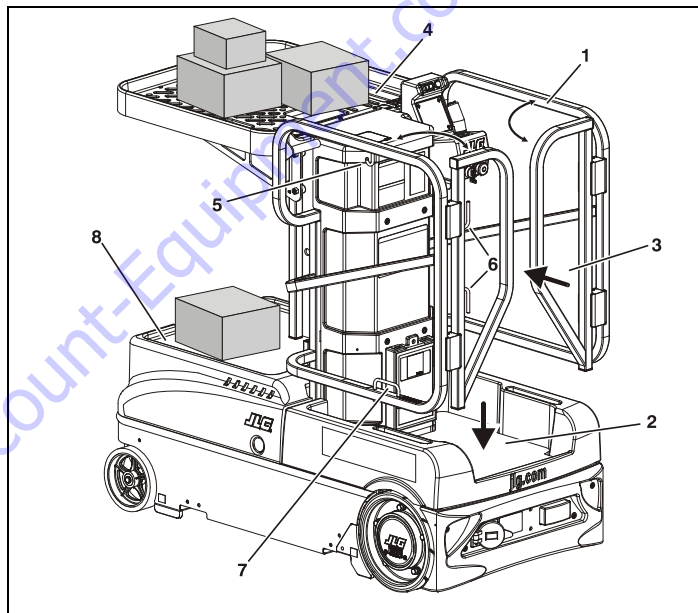

Figure 3-12. Standard Platform
Attach fall restraint lanyard to lanyard anchorage point on lower platform railing. (Refer to item 7 on Figure 3-12.)